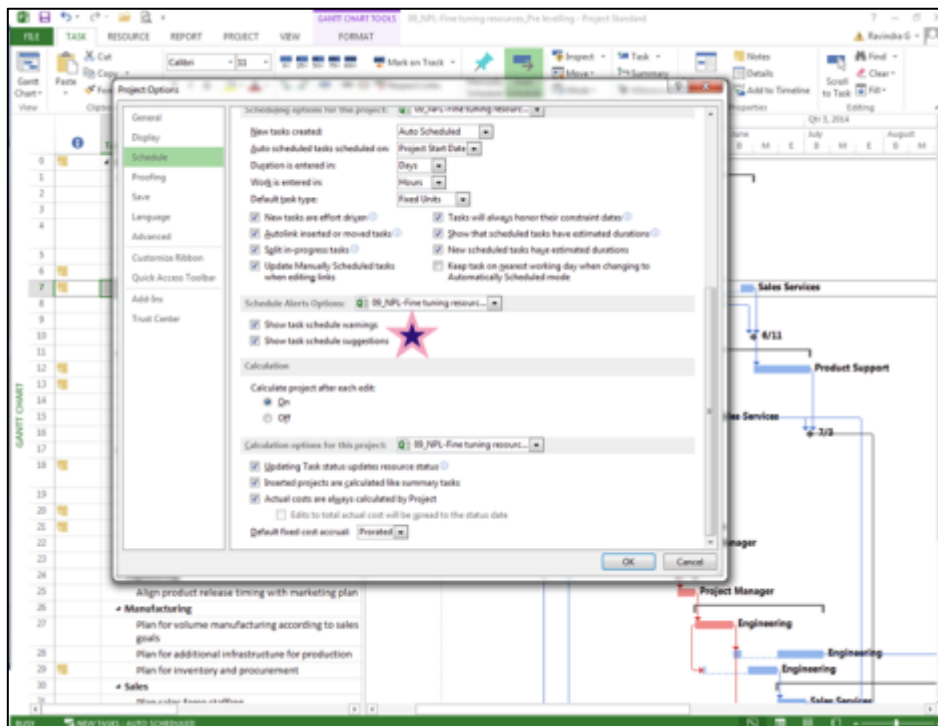

Fig.5.6: Enabling Scheduling Warning
2. In the Project Options dialog box, click Schedule on the left. (Fig.5.6) You can opt to hide or display warnings and suggestions.